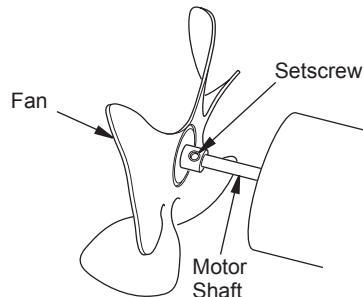

Figure 8 - Fan, Motor Shaft and Setscrew Location
11. Use 1/8" hex wrench to loosen setscrew which holds fan to motor shaft (see Figure 8).